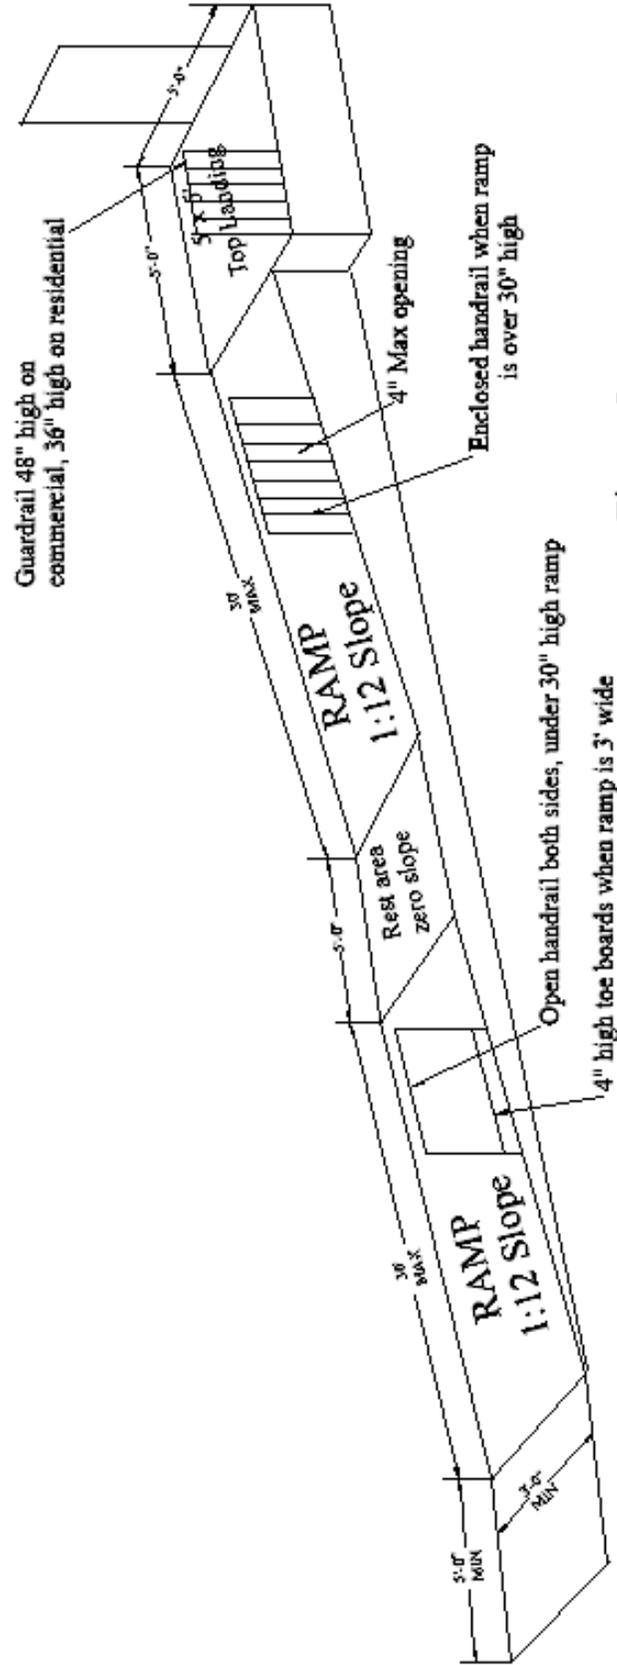

Figure 5
- Building codes are followed (see Figure 5, Cedar Rapids building code handout)